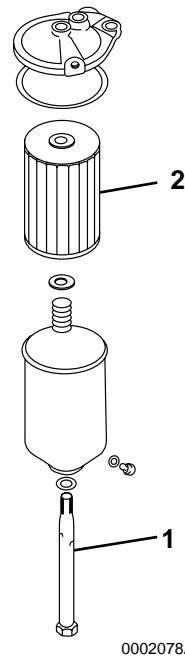

Figure 1
2. Remove the center bolt (Figure 1, (1)) at the bottom of the filter and take out the filter element (Figure 1, (2)).
3. Replace the element with a new one and tighten the center bolt (Figure 1, (1)).